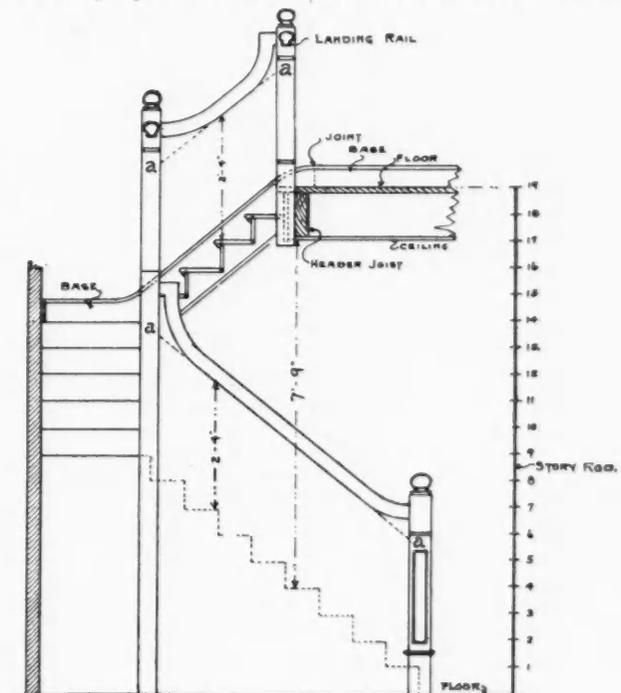

FIG. 2. ELEVATION.
inches (133) contained in the height between floors by 7. The dividend will be 19, which denotes the number of risers required. The same result may be and usually is obtained by the method shown in the elevation (Fig. 2) where a pole or rod of any dimension but long enough to reach from floor to floor is divided by the use of the compasses. This rod is known as the "story rod" and in this example will indicate nineteen divisions, each measuring 7 inches, the width of the risers.
In the elevation (Fig. 2) lines are shown drawn perpendicular to the treads from the nosing; their length being 2 feet 4 inches; they represent the length of the short balusters, and determine the length of the handrail; therefore by drawing pitch lines at the height of 2 feet 4 inches from the nosings and continuing them to the adjoining newels of each flight, we will find points upon the newels as shown at *A* in Fig. 2. These indicate the position of the handrail upon the newel. By measuring above and below these points the lengths required to receive the rails and stringers, the lengths of each newel are obtained.
If it is determined to have goose necks, and easements in the handrail as shown in Fig. 2, the newels will be so much longer.
It will be observed that it is an easy matter to find the length of newels in the manner shown in Fig. 2. The only objections to this method of operation is that it entails too much drawing.
In this figure the flight rail is drawn upon the nosing of the steps as shown 2 feet 4 inches above instead of as in Fig. 2.
A section of the header joist is shown behind the newel No. 4 in the elevation (Fig. 2); and in the plan (Fig. 1) its plan is shown by the dotted line across the staircase.